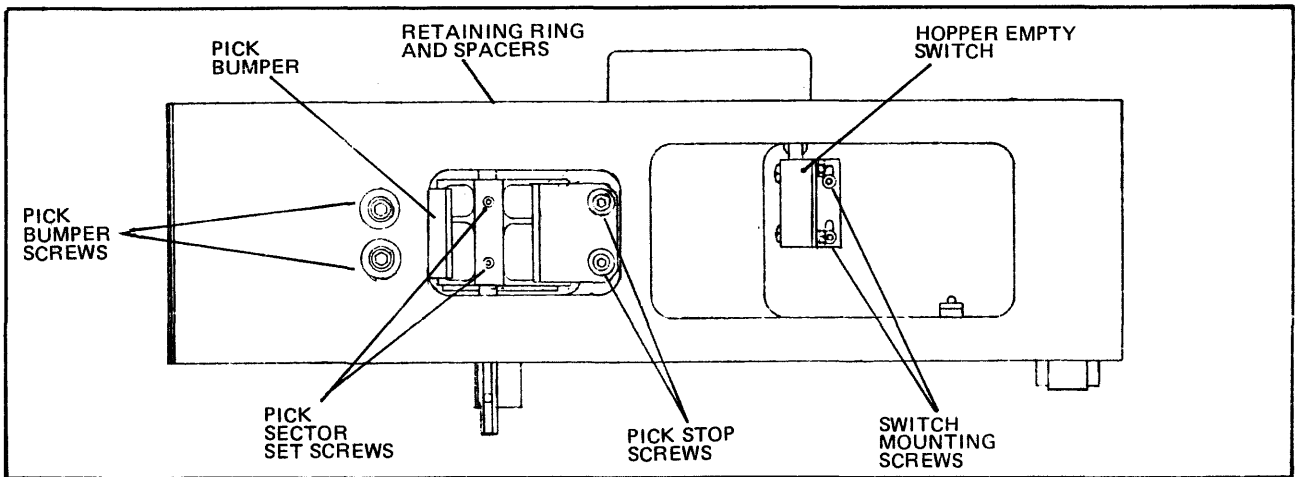

Figure 9-17. Pick Support Casting, Front View
15. Remove cable tie holding hopper empty switch cable, Figure 9-17.
1. Set picker casting in place, Figure 9-17.
- g. Remove two read head mounting screws to remove read head, Figure 9-17.
- b. Remove four light station mounting screws to remove light station, Figure 9-17.
- c. Using a #2 retaining ring remover tool, remove the retaining ring from the top of the picker shaft, Figure 9-17.
- d. Remove spacers located under the retaining ring, Figure 9-17.